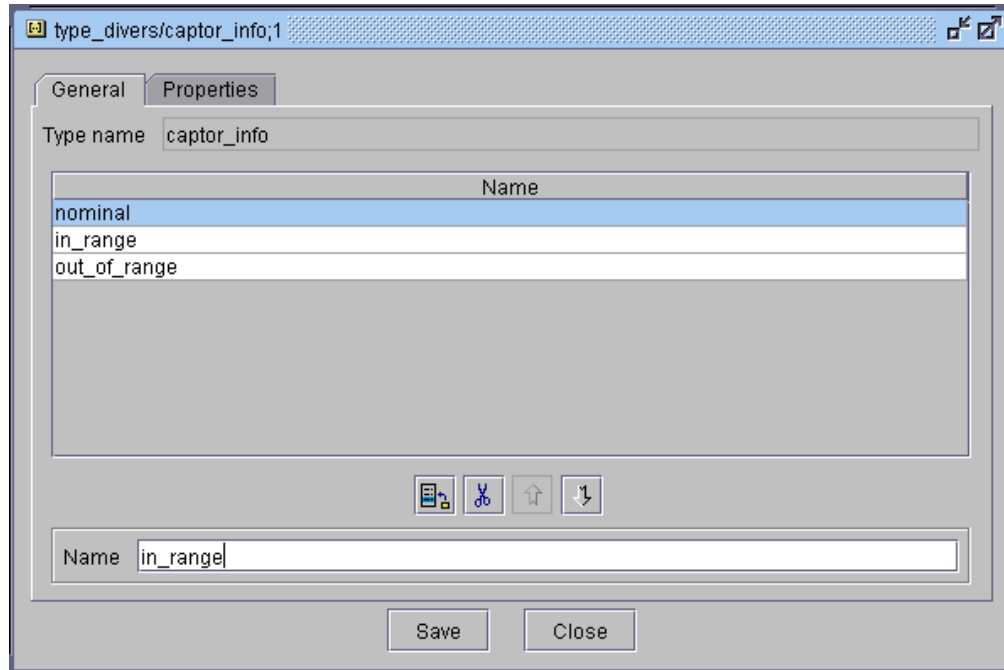

Figure 129 : Create enumerated type
- ◆ Enter a name for the new type in the field **Type name** (Figure 129)
The type edition window is displayed (Figure 129).